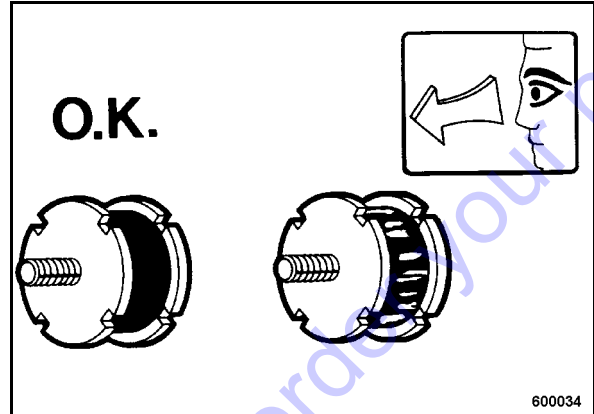

Fig. 72
- Check all rubber buffers (Fig. 72) for cracks and broken out bits and replace if damaged.